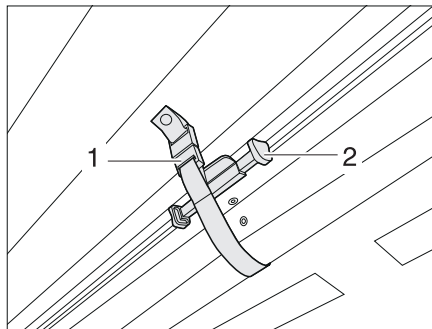

Fig. 13 Securing the Roman shade for the windscreen
- Use the handle (Fig. 13,2) to push the Roman shade for the windscreen upwards until it latches it in place. Secure with the securing loop (Fig. 13,1). The Roman shade is secured.